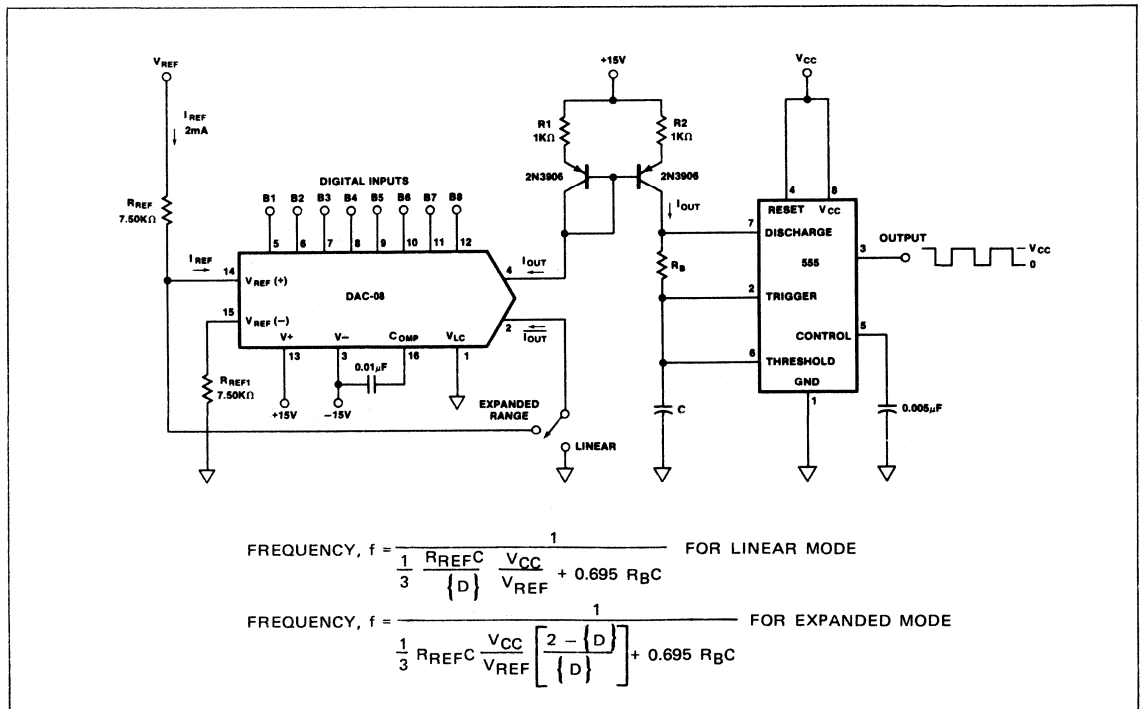

Figure 3. Digitally Controlled Astable Multivibrator
An astable multivibrator is made in a similar fashion in Fig. 3. A DAC-08 and two PNP's form a current source driving the timing capacitor (C) and a discharge resistor (R_B). The timing capacitor is charged linearly by the current source and discharged exponentially through R_B. Once again, the